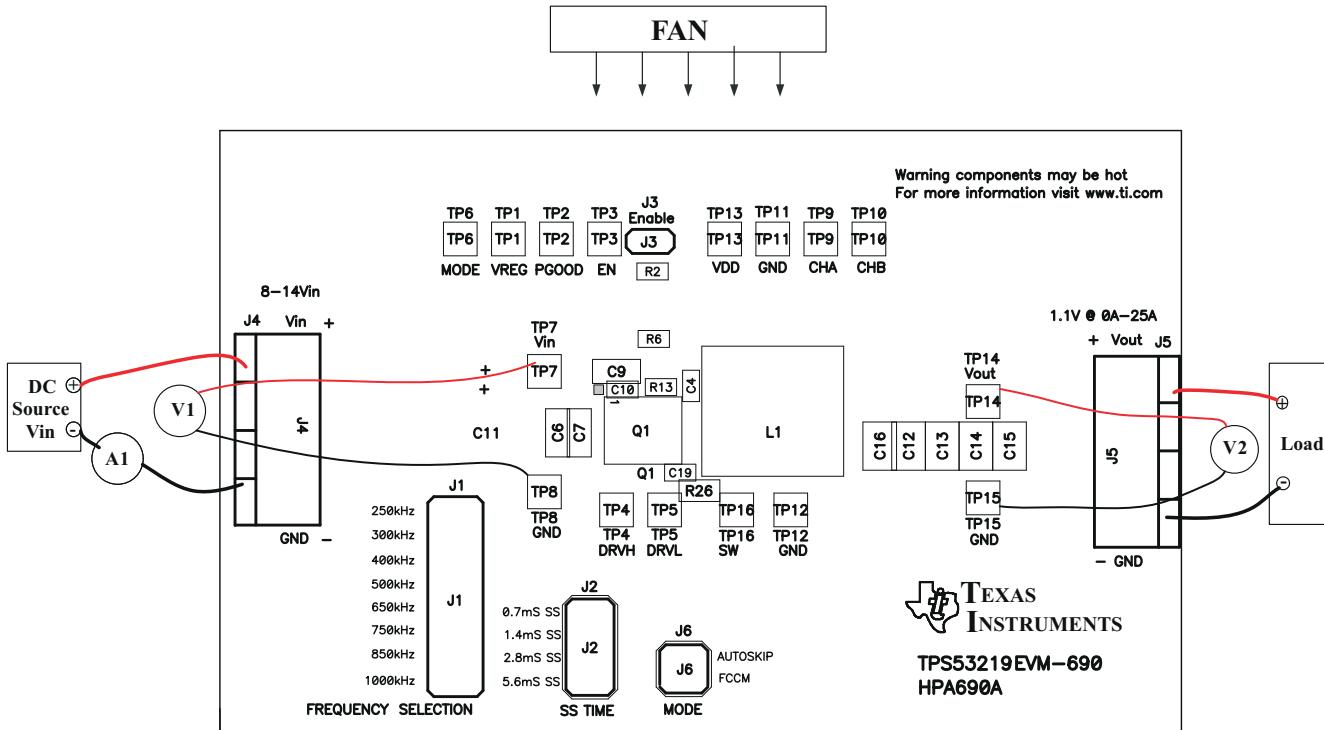

Figure 4-2. TPS53219EVM-690 Recommended Test Setup
Voltage Source: The input voltage source V_{IN} must be a 0-V to 14-V variable DC source capable of supplying 10 A_{DC}. Connect VIN to J4 as shown in Figure 4-2.
Figure 4-2 is the recommended test setup to evaluate the TPS53219EVM-690. Working at an ESD workstation, make sure that any wrist straps, bootstraps, or mats are connected referencing the user to earth ground before power is applied to the EVM.
- Prior to connecting the DC input source V_{IN} , it is advisable to limit the source current from V_{IN} to 10-A maximum. Ensure that V_{IN} is initially set to 0 V and connected as shown in Figure 4-2.
Place a fan as shown in Figure 4-2 and turn on, ensuring that air is flowing across the EVM.
1. Set up EVM as described in Section 4 and Figure 4-2.